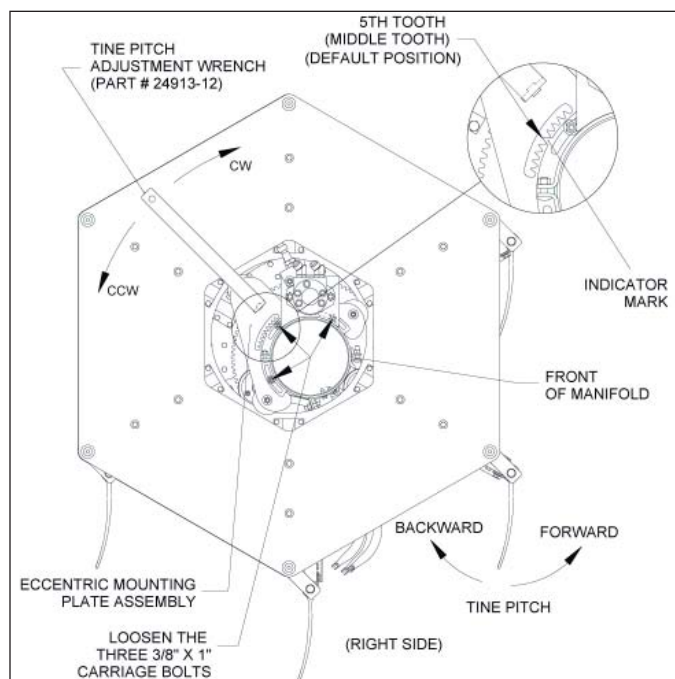
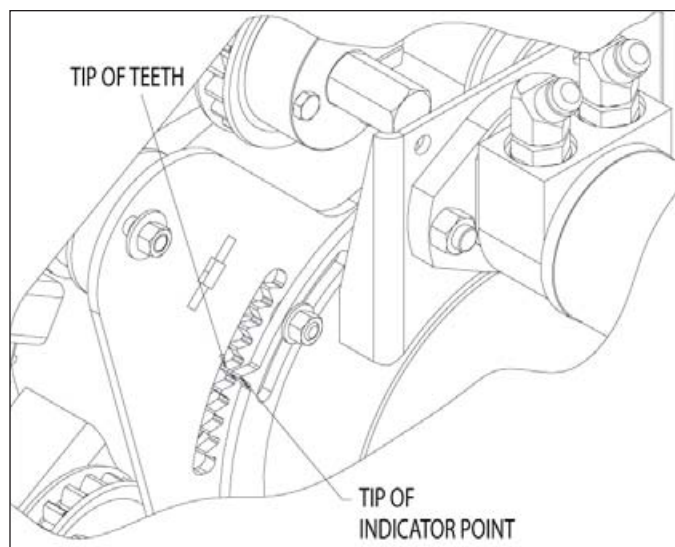

Figure 49, Tine pitch adjustment
Figure 50, Reel tine adjustment teeth
1. From the right side of the machine, loosen the three 3/8" X 1" carriage bolts securing the eccentric mount plate assembly to the RH end Clamp (Figure 49).
2. Insert the Tine Pitch Adjustment wrench into the  shaped cutout on the side of the eccentric mount plate assembly (as shown in Figure 49). The default pitch angle is with the 5th tooth (middle tooth) on the eccentric mount plate assembly aligned with the indicator mark on the RH & LH end clamps (Figure 50).
3. From the RH side of the machine, move the Tine Pitch Adjustment wrench CCW to change the tine pitch forward. Move the Tine Pitch Adjustment wrench CW to change the tine pitch backward (Figure 49).
5. From the LH side of the machine, follow steps 1 & 2, then move the Tine Pitch Adjustment wrench CCW to change the tine pitch backward. Move the Tine Pitch Adjustment wrench CW to change the tine pitch forward (Figure 49).
Although the adjustment can be made anywhere along the adjustment slot, aligning the teeth tips with the indicator point, allow you to better identify the position of the reel tine adjustment for both sides (Figure 50).